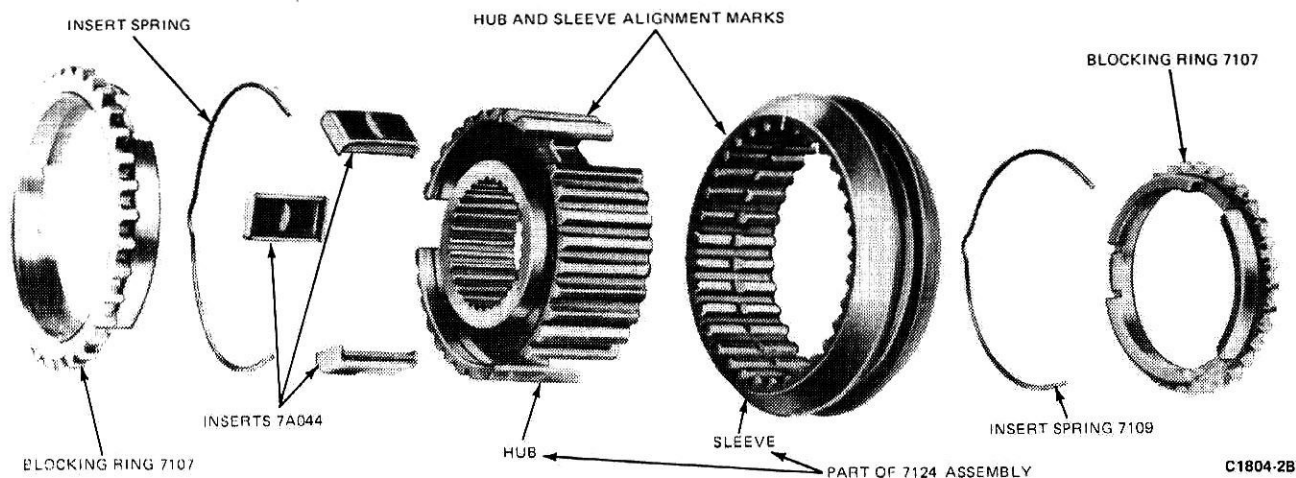

FIG. 17 Second and Third Synchronizer Disassembled
4. Install one insert spring (Fig. 17) into a groove of the second- and third-speed synchronizer hub, making sure that all three insert slots are fully covered. With the alignment marks on the hub and sleeve aligned, start the hub into the sleeve. Place the three inserts on top of the retaining spring and push the assembly together. Install the remaining insert spring so that the spring ends cover the same